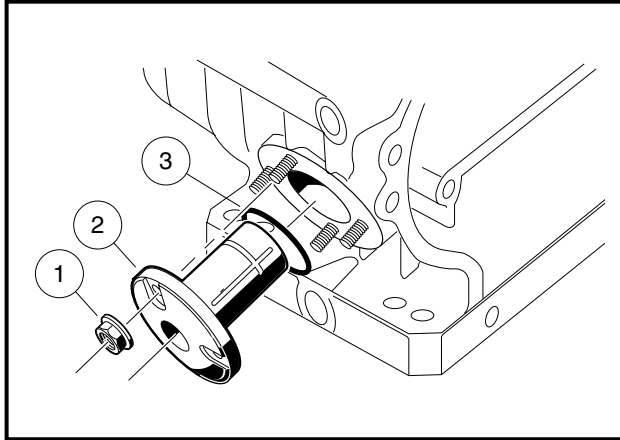

Figure 13-74 Counterbalance Guide Shaft and O-Ring Removal
1. Remove the four nuts (1) and pull out the counterbalance guide shaft (2) and the O-Ring (3) (Figure 13-74, Page 13-36).